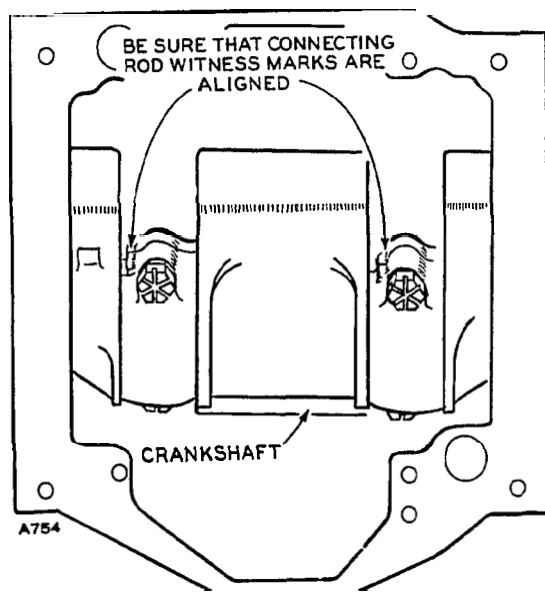

FIGURE 94. CONNECTING ROD WITNESS MARKS
5. Position each connecting rod on crankshaft, oil the journal and install its rod cap with bearing half. When installing rod cap, position so raised witness mark on the forging matches mark on connecting rod (Figure 94).